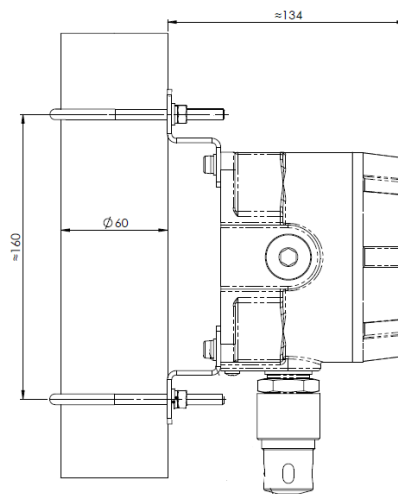

Figure 3: Pole Mounting Dimensions
- A rain and dust cover provided by GASENSOR should be used for any outdoor applications. Refer to Figures 3 and 4 for installation position of the cover.